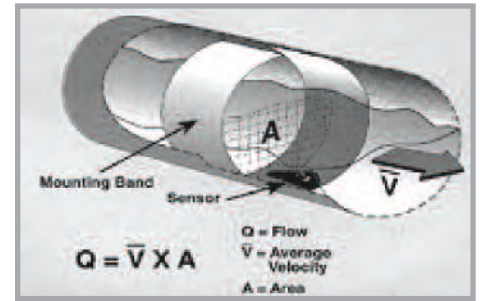

Figure 1. Continuity Equation
A significant breakthrough occurred with the introduction of A/V flow meters. For the first time there was a flow meter that measured both level and velocity. The addition of velocity allowed these flow meters to implement the Continuity Equation,  $Q = (\bar{V}m) (A)$  to calculate flow rate (see Figure 1). A/V flow meters using the Continuity Equation have important advantages over level only devices. The Continuity Equation fundamentally differs from the Manning Equation in that velocity is measured directly rather than inferring a velocity from slope and roughness. Difficult estimates of pipe slope and roughness are eliminated. A/V flow meters measure accurately over a wide range of flow rates and are not limited to the narrow range of level only meters. Downstream restrictions can cause huge errors when level only devices are used. If the flow became blocked, the pipe level could be at a maximum (full pipe) with the velocity and flow rate at zero. A level only meter would register the maximum flow rate it was scaled for. In this same example, a flow meter using the Continuity Equation correctly outputs a zero flow rate by multiplying the area of the full pipe ( $A=100\%$ ) by a velocity of zero.